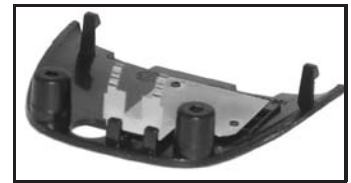

Figure 7-15.
3. Top end of bezel falls away also releasing bezel's lower retaining clips. See Figure 7-15.